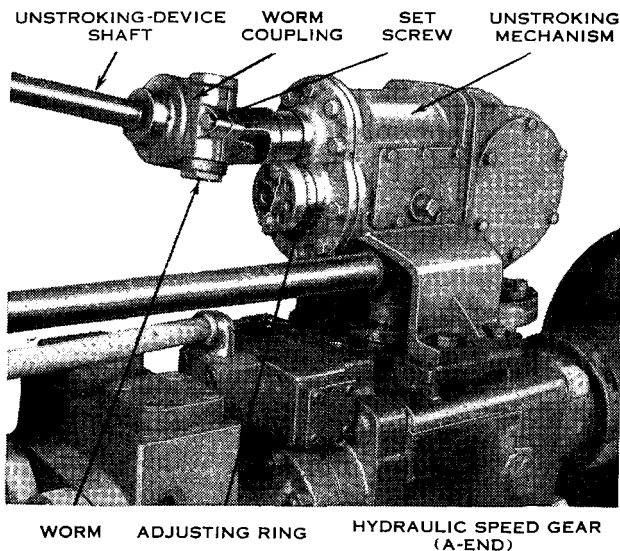

Figure 25. Unstroking mechanism.
d. To adjust the unstroking device. (1) To adjust the unstroking device, first check the withdrawal cut-off point to see that it automatically stops the rammer just before the rammer head contacts the stop pins. To do this, run the rammer, under power, part way forward onto the loading trough and then, controlling the speed, slowly withdraw it until the unstroking device stops the rearward movement. If adjustment is necessary, loosen the setscrew (fig. 25) on the
(2) Adjustment of the ram cut-off point is made through the adjusting ring (fig. 25) on the rear end of the unstroking mechanism beneath the worm coupling. First, ram a dummy projectile into the chamber of the gun, seeing that it is properly seated. Next, move the rammer head into the chamber until it rests against the base of the projectile. At some convenient point make marks on the rammer chain and rammer trough that coincide. Remove the dummy projectile and make a mark on the rammer loading trough 10 inches forward of the first mark. With power, *slowly* move the rammer head into the gun until the unstroking device stops the forward movement. If the mark on the chain does not come within an inch of the second mark made on the loading trough, the unstroking device must be adjusted as follows: